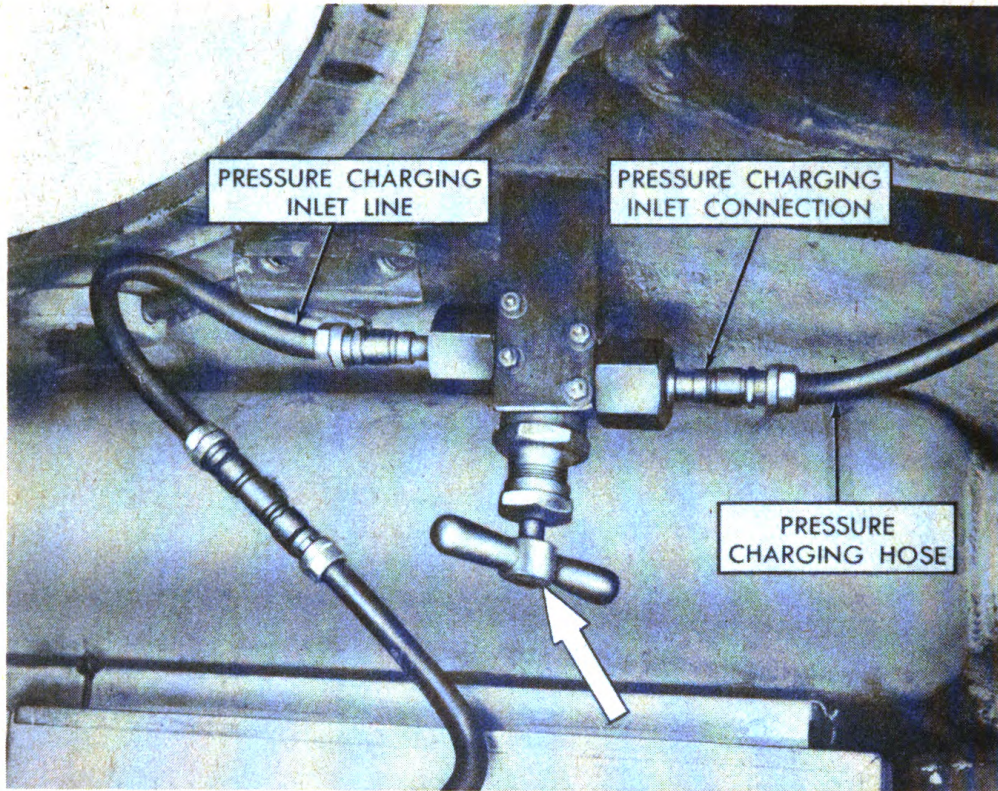

Figure 10—Main pressure charging valve and lines.
(1) *Main pressure charging valve* (fig. 10). This is a 1/2-inch globe valve. It is opened only when charging the hull pressure containers with compressed air or nitrogen or when releasing pressure from the pressure